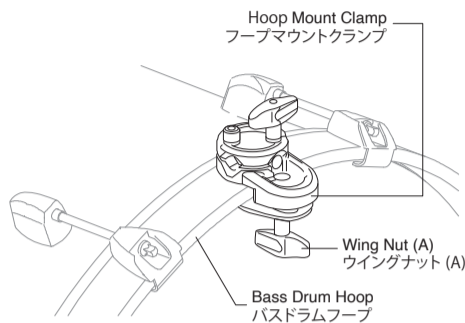

Fig. 1 / 図1
1. Loosen the Wing Nut (A) on the Hoop Mount Clamp and attach the Clamp to the Bass Drum Hoop as shown. Tighten the Wing Nut to secure (Fig.1).
す (図 1)。